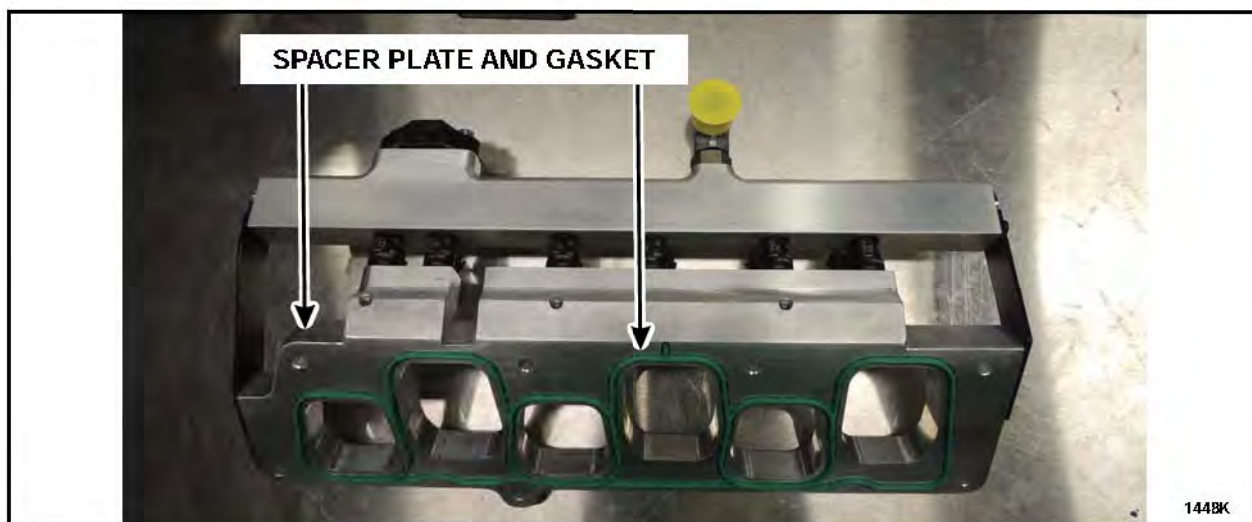

FIGURE 9
10. Remove the spacer plate and discard the gasket. See Figure 9.